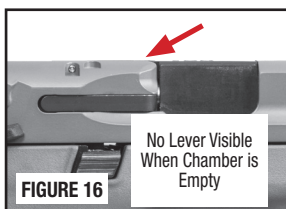

FIGURE 16
- **Type 2:** Some M&P® M2.0™ pistols are equipped with a tactile loaded chamber indicator. This indicator is present on the top of the slide. When the chamber is empty, the loaded chamber indicator will be flush with the top of the slide. When the chamber is loaded, the front of the loaded chamber indicator will protrude from the top of the slide where it can be felt above the slide's surface (FIGURES 16 and 17).